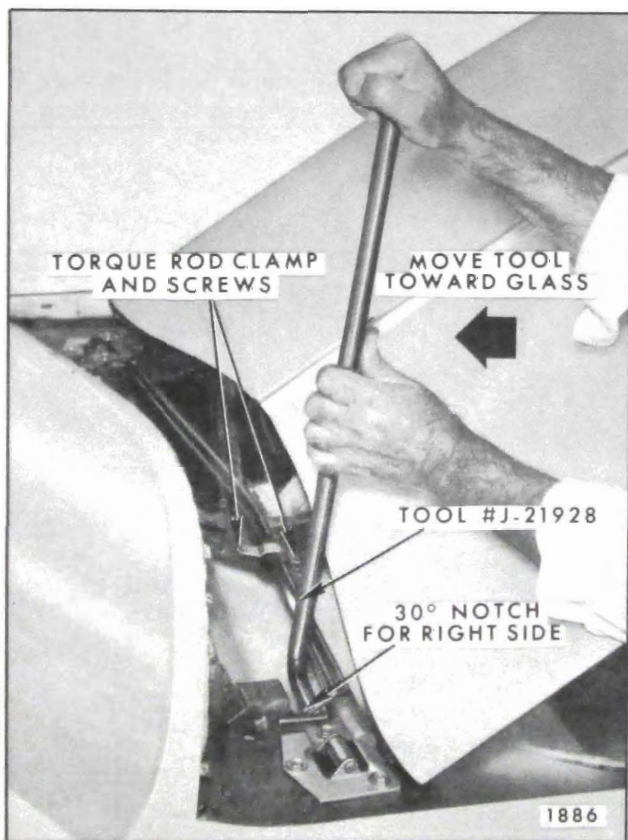

Fig. 5-19—Torque Rod Removal - Right Side
5. Remove torque rod clamp to shroud, located to right of center of shroud (Fig. 5-19).
6. Install tool J 21928 (Fig. 5-19) to lid torque rod on right side of body. Securely grasp tool and move it toward windshield to disengage rod from retaining notch. Carefully disengage tool from rod.